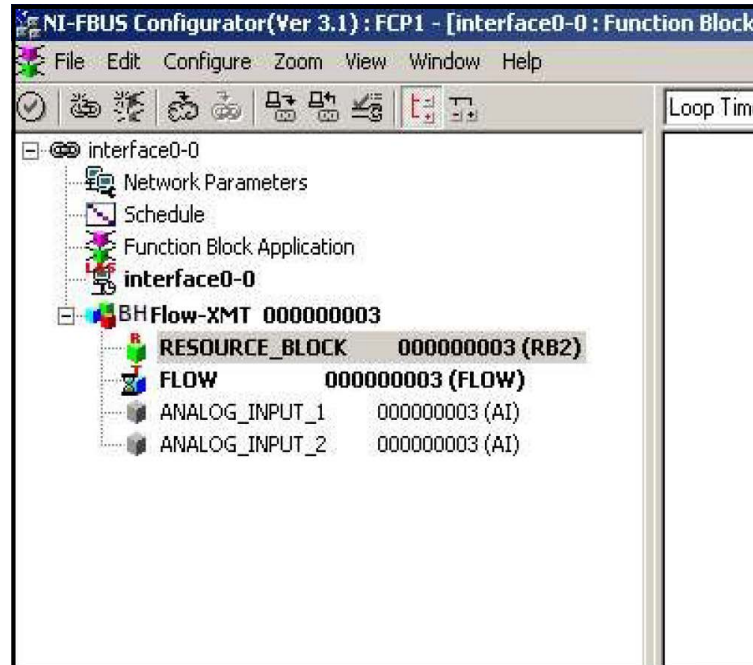

Figure 40: Configuration Utility Setup Example
Figure 40 below shows the Configuration Utility with a flowmeter on the network (BH Flow-XMT).
1. Double click on the AI block for which you wish to set the units (ANALOG_INPUT_1 or ANALOG_INPUT_2 in the tree under BHFlow-XMT; see *Figure 40*).
1. Double click on the FLOW transducer block (in the tree under BHFlow-XMT; see *Figure 40*).